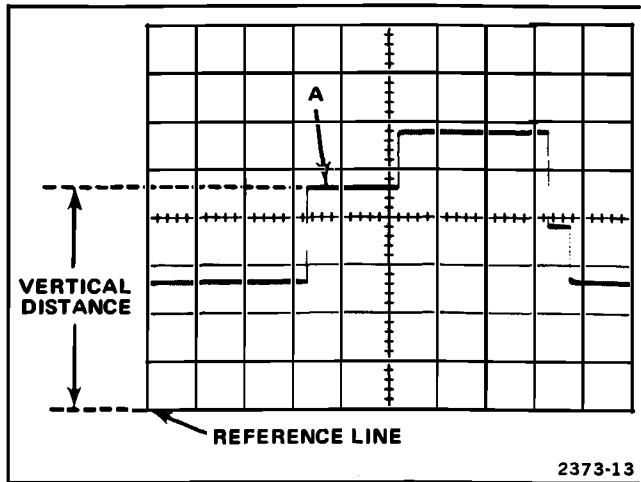

Fig. 13. Measuring instantaneous dc voltage with respect to a reference voltage.
9. Measure distance in divisions between reference line and point on waveform at which dc level is to be measured. For example, in Fig. 13 measurement is made between reference line and point A.
EXAMPLE: Assume that vertical distance measured is 4.6 divisions (see Fig. 13), waveform is above reference line, and VOLTS/DIV switch reads 2.